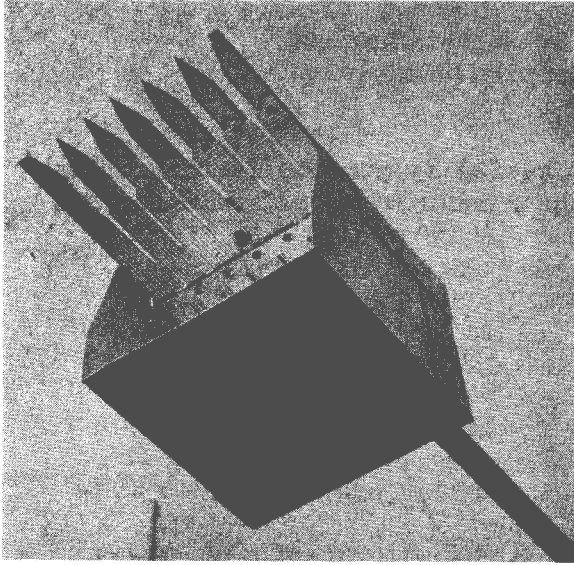

Figure 1. Collecting can showing details of the tine-cutter assembly and open end of can.
The collecting can illustrated in figures 1 and 2 is designed to facilitate easy and rapid collection of small fruit with a minimum of damage to the tree. Actually the idea for the can occurred to me while watching the gathering of cranberries with a cranberry-cradle. Standard 1/614-inch waffle-pattern aluminum sheet was used for the can and cutters. The tines and crossbars were made from 1/8-by 3/14-inch aluminum-bar stock. Total cost of materials was \$^s3.00, plus 5 hours of labor. The following describes how to construct and assemble tines and can:
- b. Lay out pattern of can (fig. 1) on the sheet and after cutting it to shape, score or indent it slightly along dotted lines.
To collect pendant fruit, use the can in the position shown in fig. 1. If the fruit is in an upright position, invert can so that tines are toward the ground. In use, the tines should pass close to the fruit clusters and so avoid cutting the twigs. The cutters at the base of the tines will shear the peduncles of the fruit, allowing the fruit to drop into the can. Since the aluminum is "waffled," the fruit will not roll out easily unless the can is tipped forward. A pound or more of small fruits can be collected in the can at one time and then deposited in a larger receptacle.